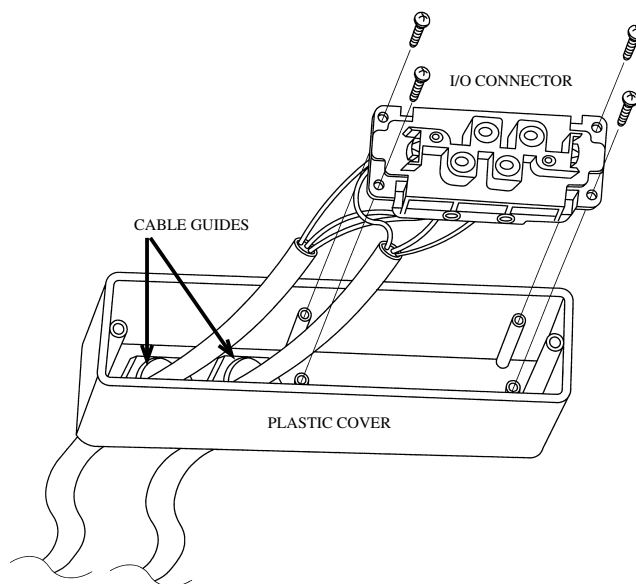

Fig. 6
- 5) Insert the I/O connector in the plastic cover and secure it with the screws; then run the cables through the holes securing them with the two cable guides (see Fig. 6).